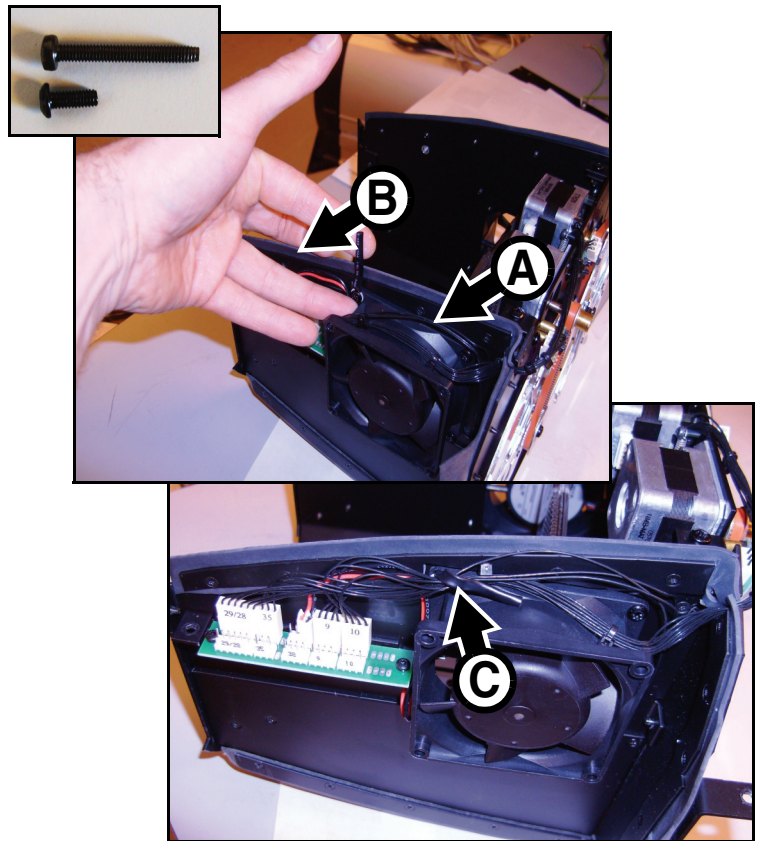
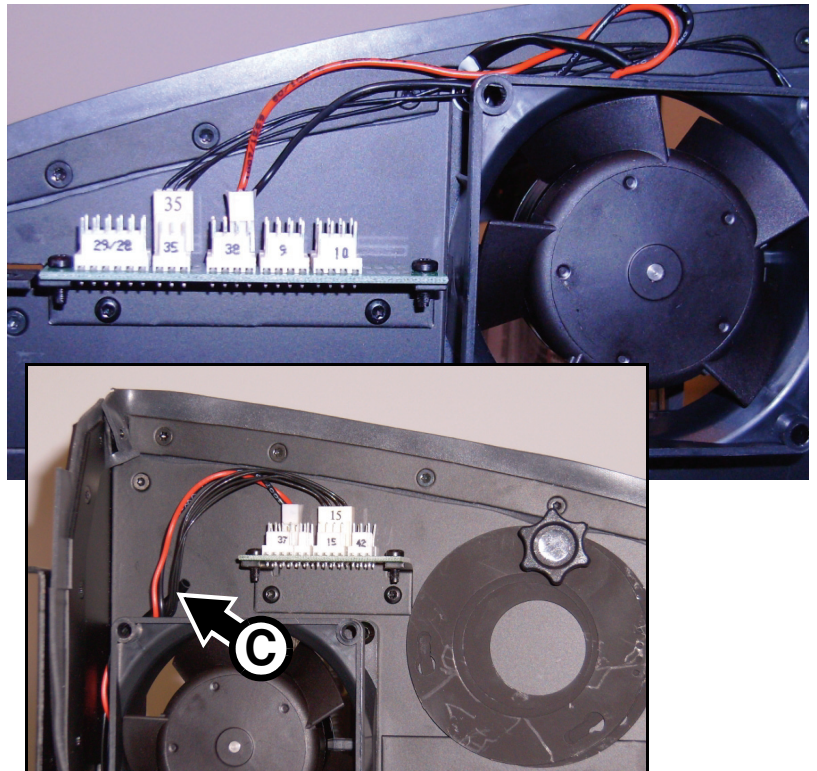

Figure 65
Figure 66
71. See Figure 65. Two new fans (P/N 62222079) and eight new mounting screws (P/N 08070700) are supplied in the Upgrade Kit. The new screws are much shorter than the fan mounting screws you have just removed and must be tightened on the inner flanges (as shown at **A**) of the fan housing, using a screwdriver thin enough to pass through the holes in the outer flanges. Use the new screws to install the 2 new effect cooling fans in place of the old ones. Install both fans with their labels facing inwards as shown in Figure 65 and install a wire retaining clip (P/N 13101010) supplied in the Upgrade Kit on the front top mounting screw **B** of the left-hand side fan and rear top mounting screw of the right-hand side fan.
72. Route all wiring out of the way of the fans and plug the fans into the connectors where the old fans were plugged in (see Figure 66). Secure wiring with cable ties and the wire retaining clips (**C** in Figure 65 and Figure 66). Make sure that leads cannot hang in front of fans.